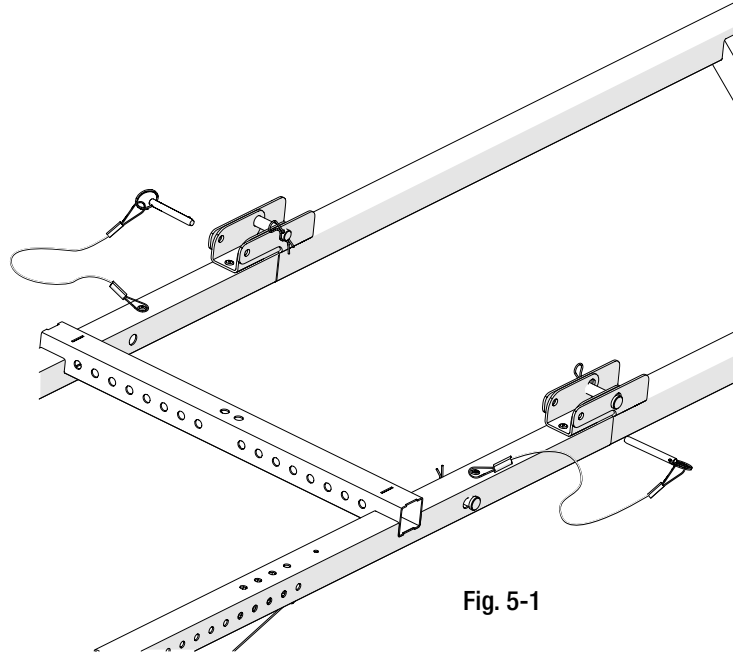

Fig. 5-1
2. Insert safety pins into corresponding holes in bracket. See Fig. 5-1.